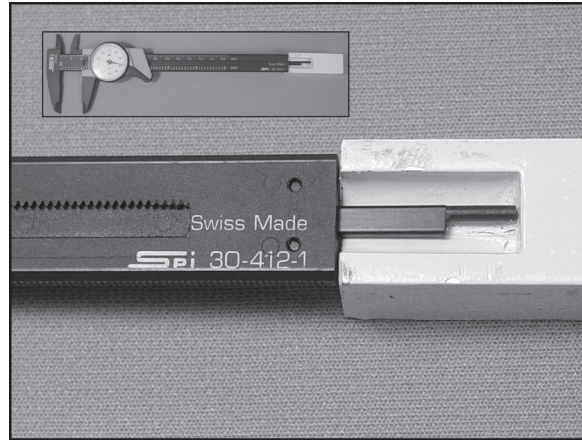

Figure R7.3 | Depth Measurement
- D.** You can also measure depth with calipers. You do this by aligning the metal rod found at the end of the calipers opposite from the jaws with the dimension on the object to be measured (Figure R7.3). As the wheel is turned, the rod extends and its length is reported on the dial.